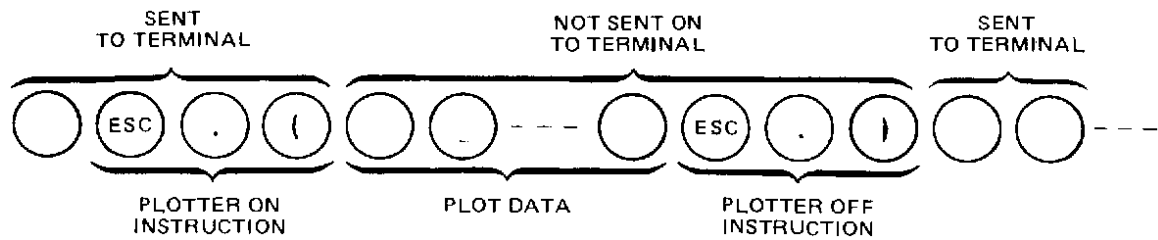

Figure 10-1. PLOTTER ON and PLOTTER OFF Instruction Routing, ON-LINE Mode
**Description:** Beginning with the next character, the plotter intercepts incoming data and interprets it as plotter instructions, without passing it onto the terminal. However, the PLOTTER ON instruction itself will be passed onto the terminal as shown in Figure 10-1. If the plotter is already programmatically on, then a PLOTTER ON instruction is ignored. Refer to Chapter 3 for further information on operating modes.